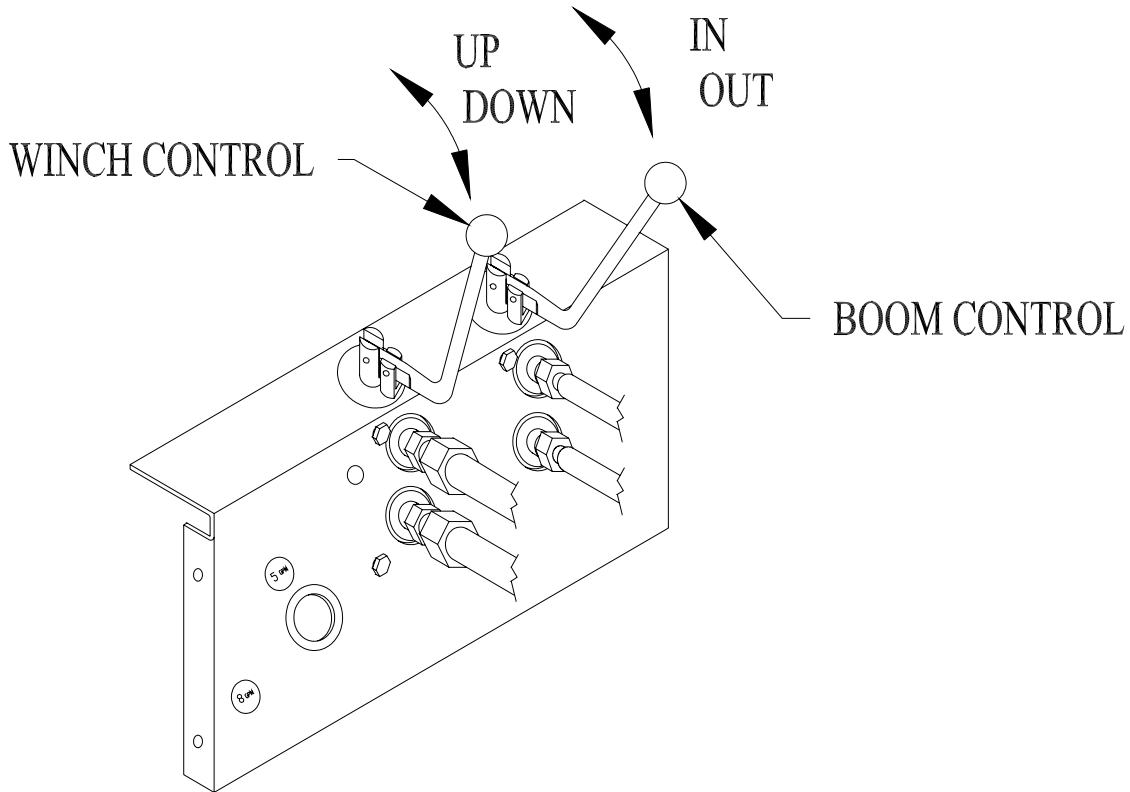

Figure 4-2.
2. For HydraPaks with a fixed 6 GPM output, control lifting speed by running the engine at partial throttle. Speeds are variable to about 140 fpm. See Figure 4-2.